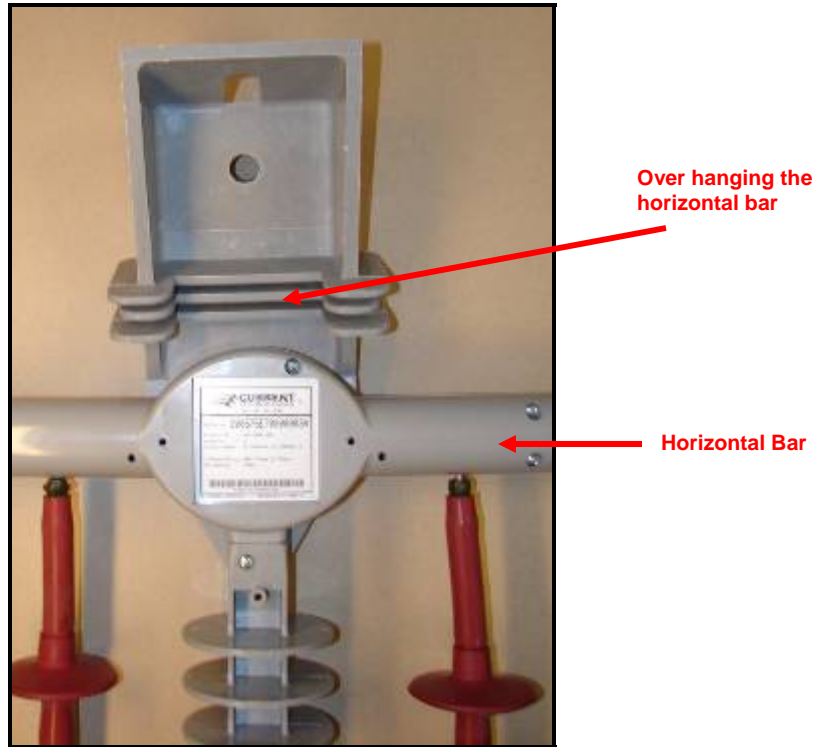
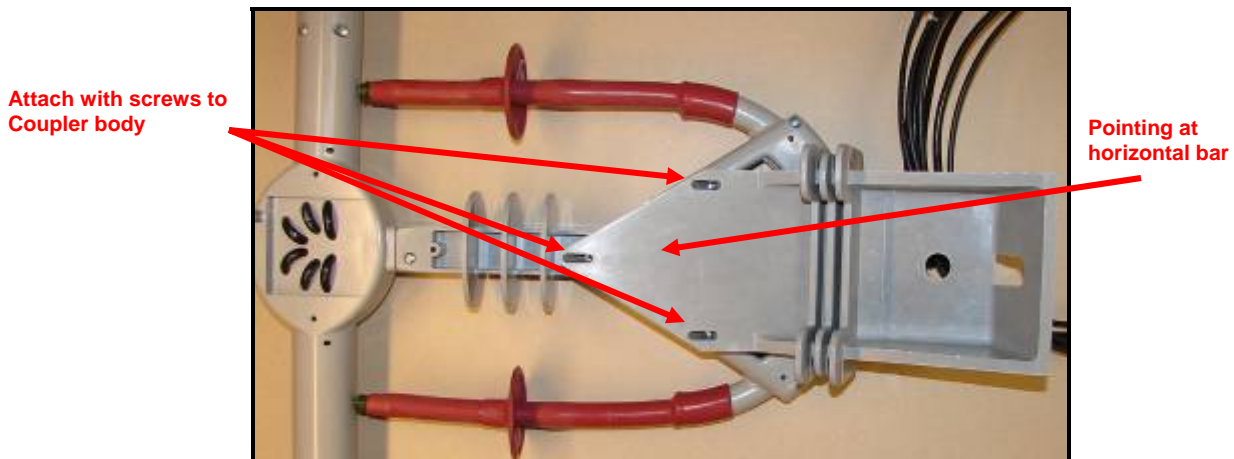

Figure 6 – Top Mount
Figure 7 – Body Mount
- Top Mount (*Figure 6*)
- Body Mount (*Figure 7*)
This configuration is used when mounting the CT Coupler is using the fiberglass EMB. The EMB is used to mount the Coupler directly to the pole. The steps below detail how to mount the CT Coupler using the EMB. The EMB can be used with either the Top Mount configuration (*Figure 6, section 3.3.1*) or Body Mount configuration (*Figure 7, section 3.3.2*). Please refer to *section 3.4.2* if it is necessary to use the optional t-strap on the EMB.
This configuration is used when mounting the CT Coupler directly onto the cross arm. The Cross Arm mount requires that the CT Coupler Hanging Bracket be mounted using the Top Mount configuration (*Figure 6, section 3.3.1*).